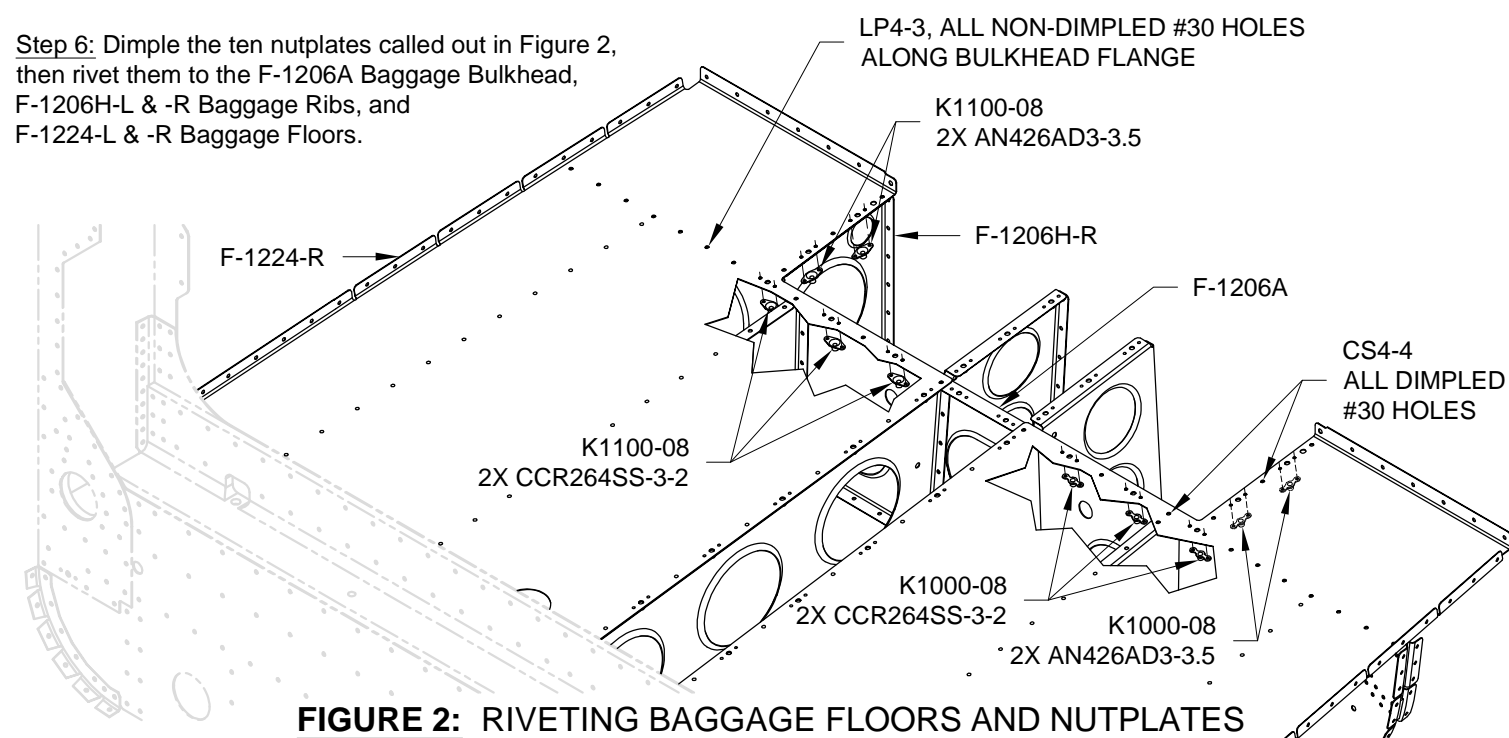

FIGURE 2: RIVETING BAGGAGE FLOORS AND NUTPLATES
Step 5: Rivet the F-1224-L & -R Baggage Floors to the F-1206A Baggage Bulkhead and F-1206H-L & -R Baggage Ribs using the rivets called out in Figure 2.
Step 6: Dimple the ten nutplates called out in Figure 2, then rivet them to the F-1206A Baggage Bulkhead, F-1206H-L & -R Baggage Ribs, and F-1224-L & -R Baggage Floors.